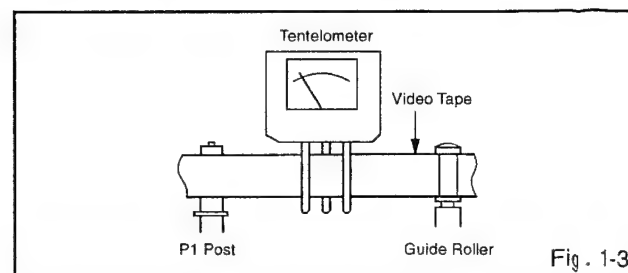

Fig. 1-3
- Install the tentelometer as shown in Fig. 1-3. Confirm that the meter indicates 20 ± 2 gf in the beginning of playback.
- After confirmation and adjustment of Tension Post position (Refer to item 1-2), load the cassette type torque tape (JG100A) and set to the PLAY mode.